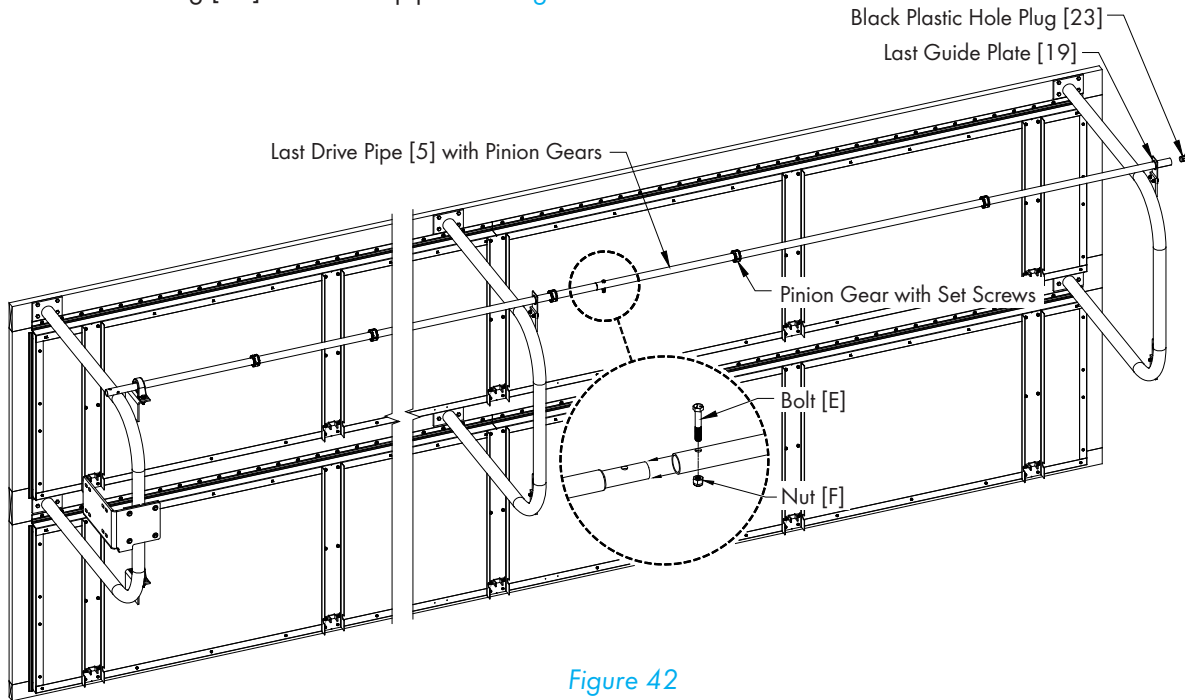

Figure 42
For the last Drive Pipe [5] slide (3) Pinion Gears onto Pipe, then slide the swedged end of the Drive Pipe through the Bronze Bushing in last Guide Plate [19]. Then slide the opposite end onto the swedged end of the previous pipe. If needed slide one of the Pinion Gears past the joint in the pipes to align with the Door Support CHNL Bracket [6]. Align the pre-drilled holes and secure pipes together using Bolt [E] and Nut [F]. See Figure 42. Cut excess Drive Pipe so that only 3" extends past the last Guide Plate. Then Insert Black Plastic Hole Plug [23] into end of pipe. See Figure 42.